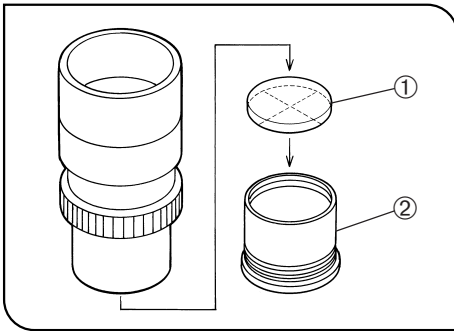

Fig. 28
**4 Using the Eyepiece Micrometer Disk (Fig. 28)**
Following Fig. 28, turn the built-in micrometer-mounting frame ② counterclockwise to remove it from the eyepiece and place a micrometer disk.